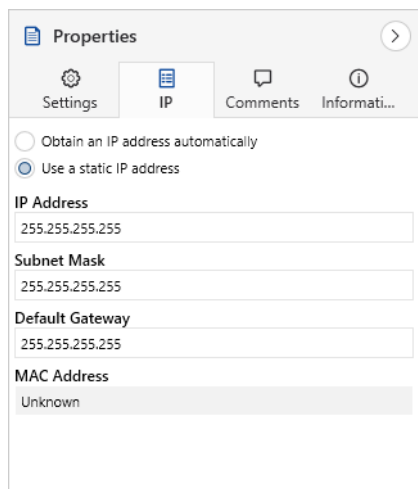

Figure 21: IP settings
3. You will find the available selection options in figure 21 and table 10, "Settings for manual IP address entry or for receiving automatically," on page 35.